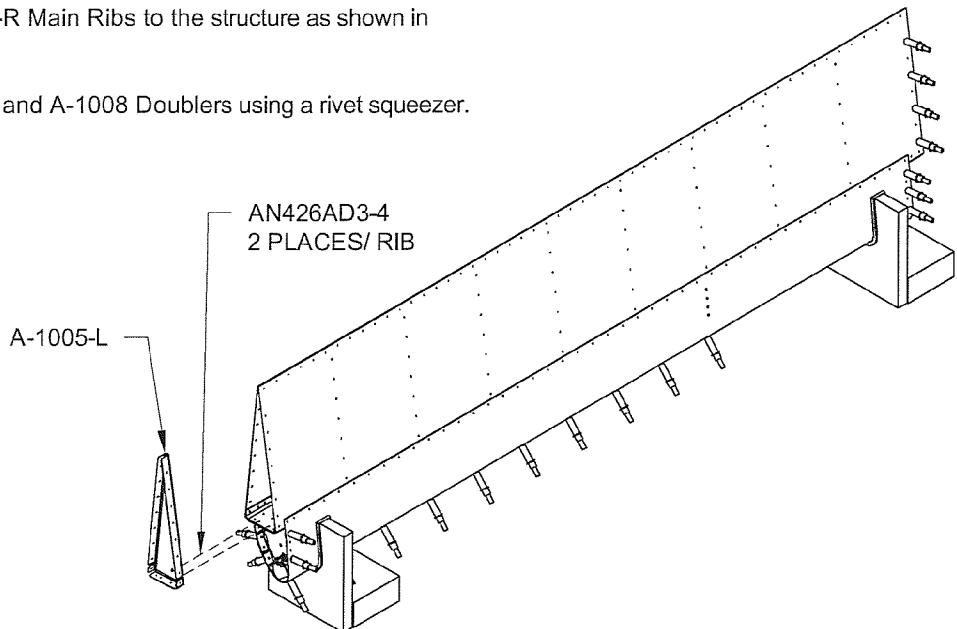

FIGURE 3: ATTACH MAIN RIBS
Step 3: Cleco the A-1005-L and A-1005-R Main Ribs to the structure as shown in Figure 3.